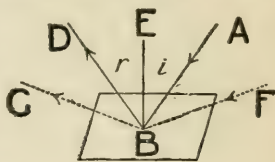

FIG. 4
light strikes the reflector squarely, at right angles to the surface, it is reflected straight back again along the path by which it came. But if the light falls on the surface at any other angle than a right angle, each of the rays which make up the total volume is reflected at the point where it impinges on the surface according to an invariable rule illustrated in Fig. 4. A ray from A meets the surface at B. From B imagine a line, BE, drawn perpendicular to the surface. Then the distance of the reflected ray BD is known from two facts:
**Real Image** in the sense that a photographic lens does. All it does is to form an optical same-size illusory reproduction of an object in a plane which seems to be behind the mirror. It forwards the rays to the eye exactly as they would come from the original scene—except in one respect referred to in the next paragraph. It does nothing to bring to a focus or point all the rays which come from every point in an object as a lens does in forming a real image—our eyes do that when we look at a real thing or a mirror-image—but it must not be forgotten that a mirror, if interposed in the path of rays from a lens, reflects them, also, according to the definite law of page 374 (Fig. 4). It can reflect the rays forming a real image and is widely used for that purpose in optical instruments.
they fall upon the painting or its protective glass. Our law of page 374 (Fig. 4). According to the particular circumstances a large or small proportion of them form the whole or part only of the picture, impinge on the lens, and produce excessive action on the plate. The effect is the unsightly glare to be noticed in many photographic copies of paintings.